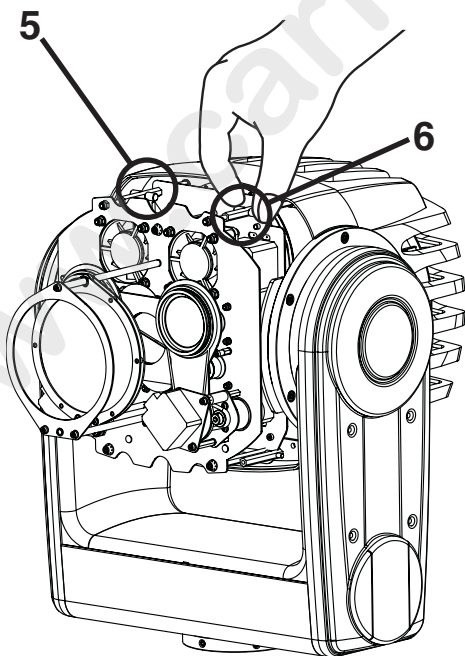

Fig. 3
- 3. Unscrew the two threaded pins (5)(6) as shown in Fig.3